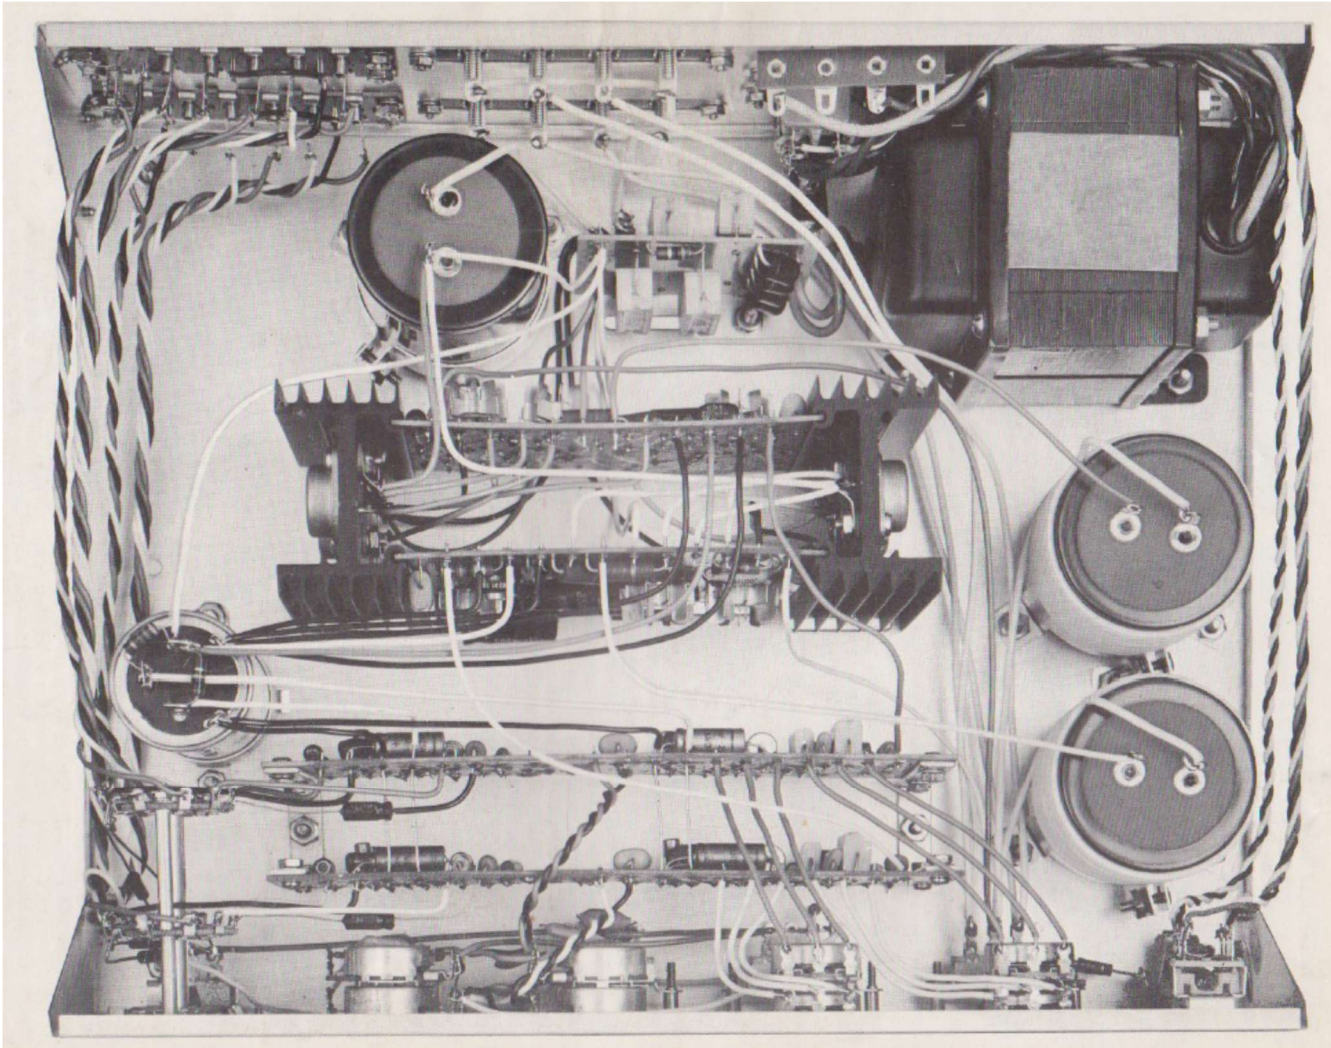

Figure 11-SCA80 Original Wiring
3. If you need a reminder about where something goes, please refer to Figure 11.